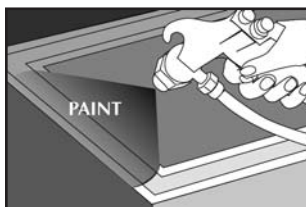

Figure 2.
1. Paint the cabinet using conventional methods (Figure 2).